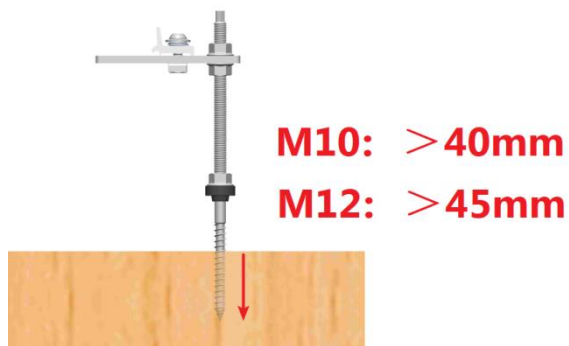

Figure 6
4.1.2 Adjust the position of rubber seal on the Hanger bolt to ensure hanger bolt have the depth as shown in figure 6 into the wood purlin